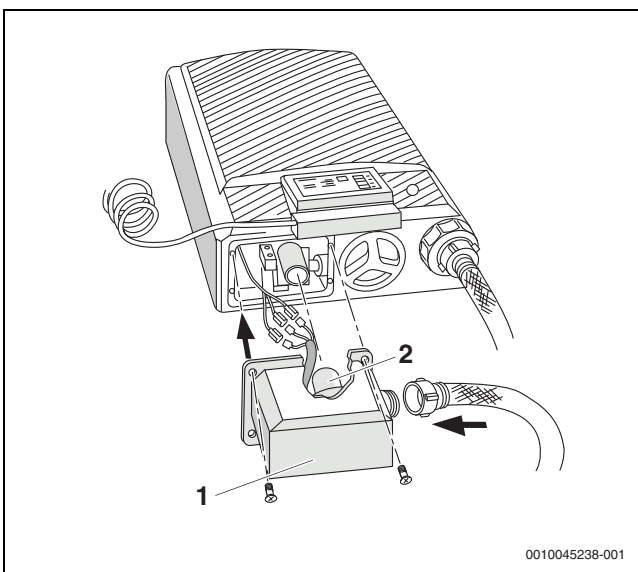

Fig. 12 Installing the pressure booster
- ▶ Connect the cable from the pump housing to the cable from the pressure booster with a connector (→ Figure 12).
- ▶ Position the pressure booster (→ Figure 12, [1]) such that the inserted O-ring (→ Figure 12, [2]) in the connector of the pressure booster slides over the connector in the pump housing.
- ▶ Line up the bores in the mounting flange and on the pump housing and screw the pressure booster (→ Figure 12, [1]) to the pump housing with 4 screws.